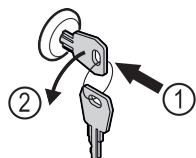

Fig. 139
- ▶ Insert the key. *Fig. 139 (1)*
- ▶ Turn the key anticlockwise by 90°. *Fig. 139 (2)*